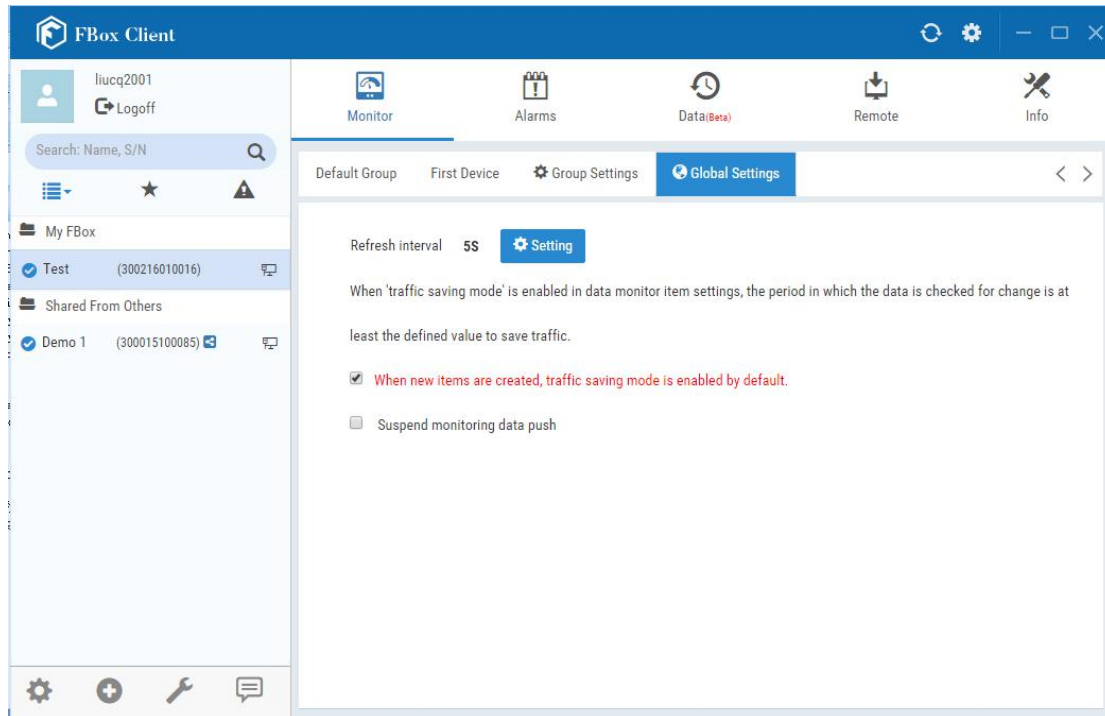

Fig. 4.6-6 The "Global Settings" subtab page
(1) Click the "Global Settings" Sub-tab in the "Monitor" function page, as shown in Fig. 4.6-6. In this sub-tab page, you can set the refresh time for remote data.